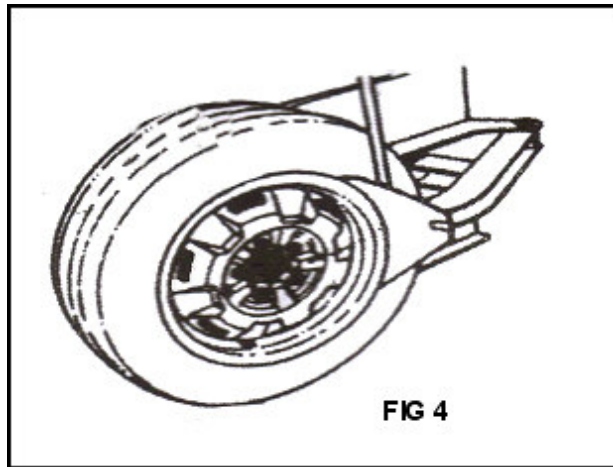

FIG 4
3.1.2 Place the tire between bead breaker and tire pressing runner clog (FIG 4). Then step down the pedal to detach the rim from the tire. Repeat the same operation on the other parts of the tire to make the tire completely detached from the rim.